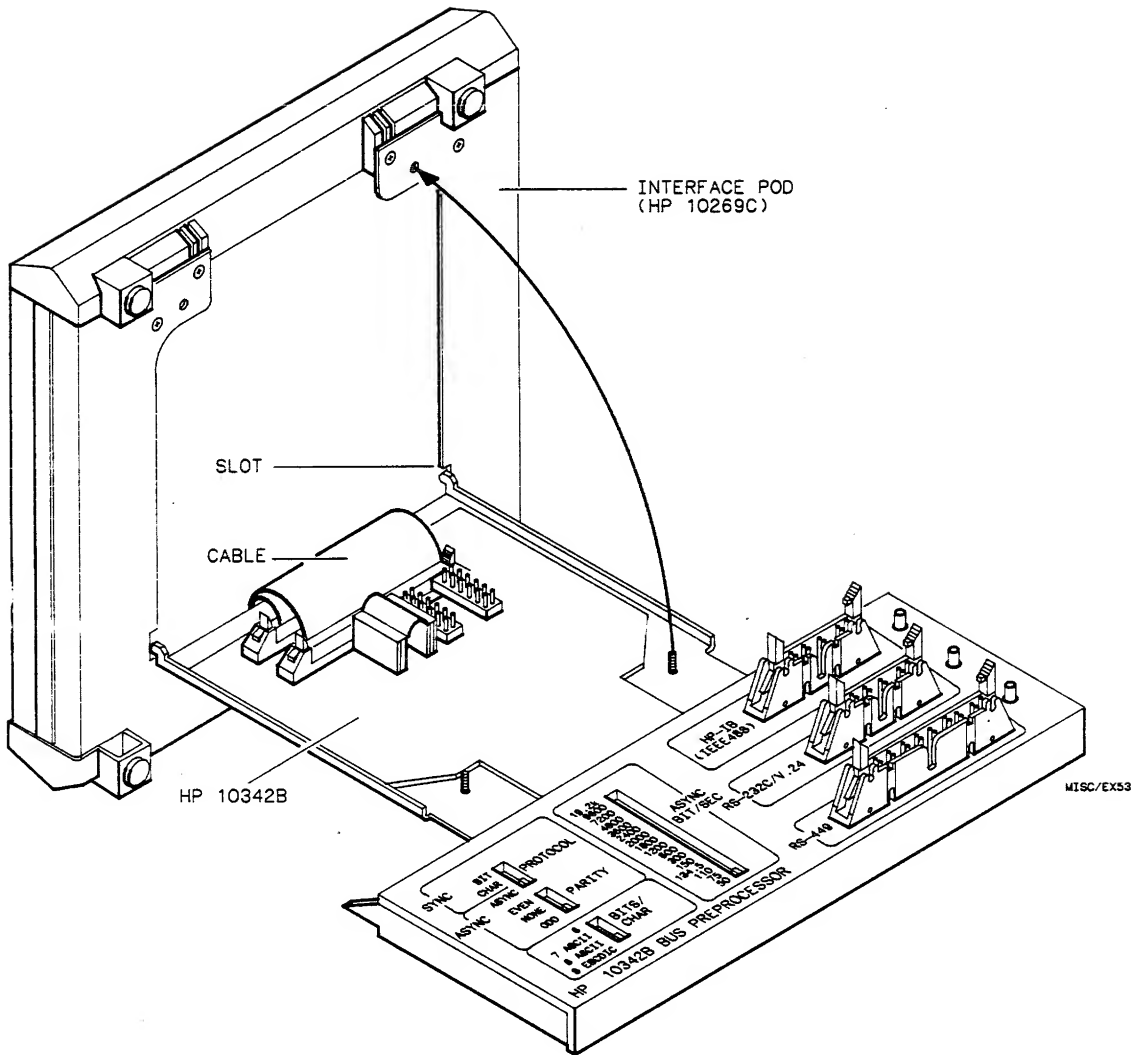

Figure 6-3. Installing the HP 10342B in the HP 10269C
1. Once all the connections are made, install the HP 10342B on the bottom of the HP 10269C (see figure 6-3).